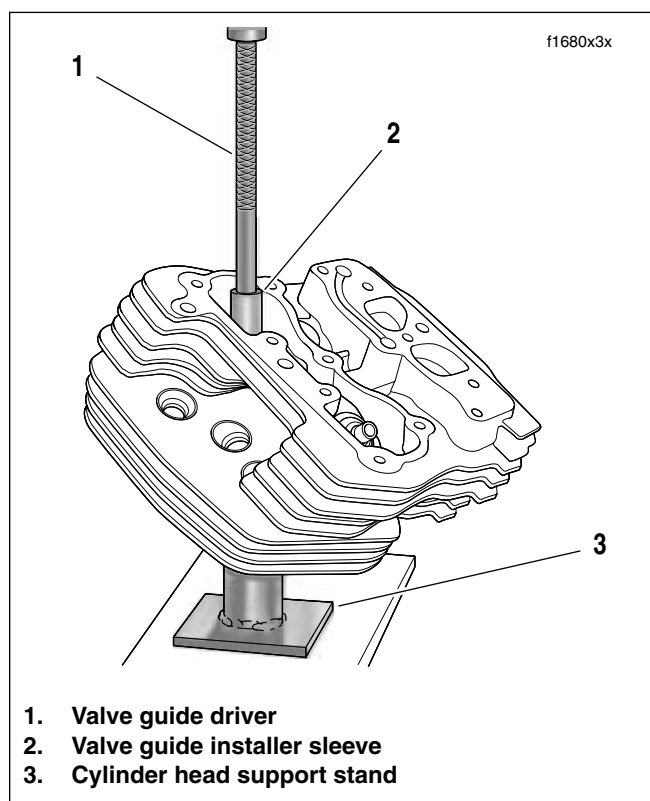

Figure 3-16. Install Valve Guide
- a. See Figure 3-16. Insert sleeve of intake or exhaust seat adapter into tube at top of support stand. Position cylinder head so that valve seat is centered on seat adapter. Support stand ensures that valve guide and seat are perpendicular. If perpendicularity is not achieved, cylinder head valve guide bore will be damaged during the press procedure.